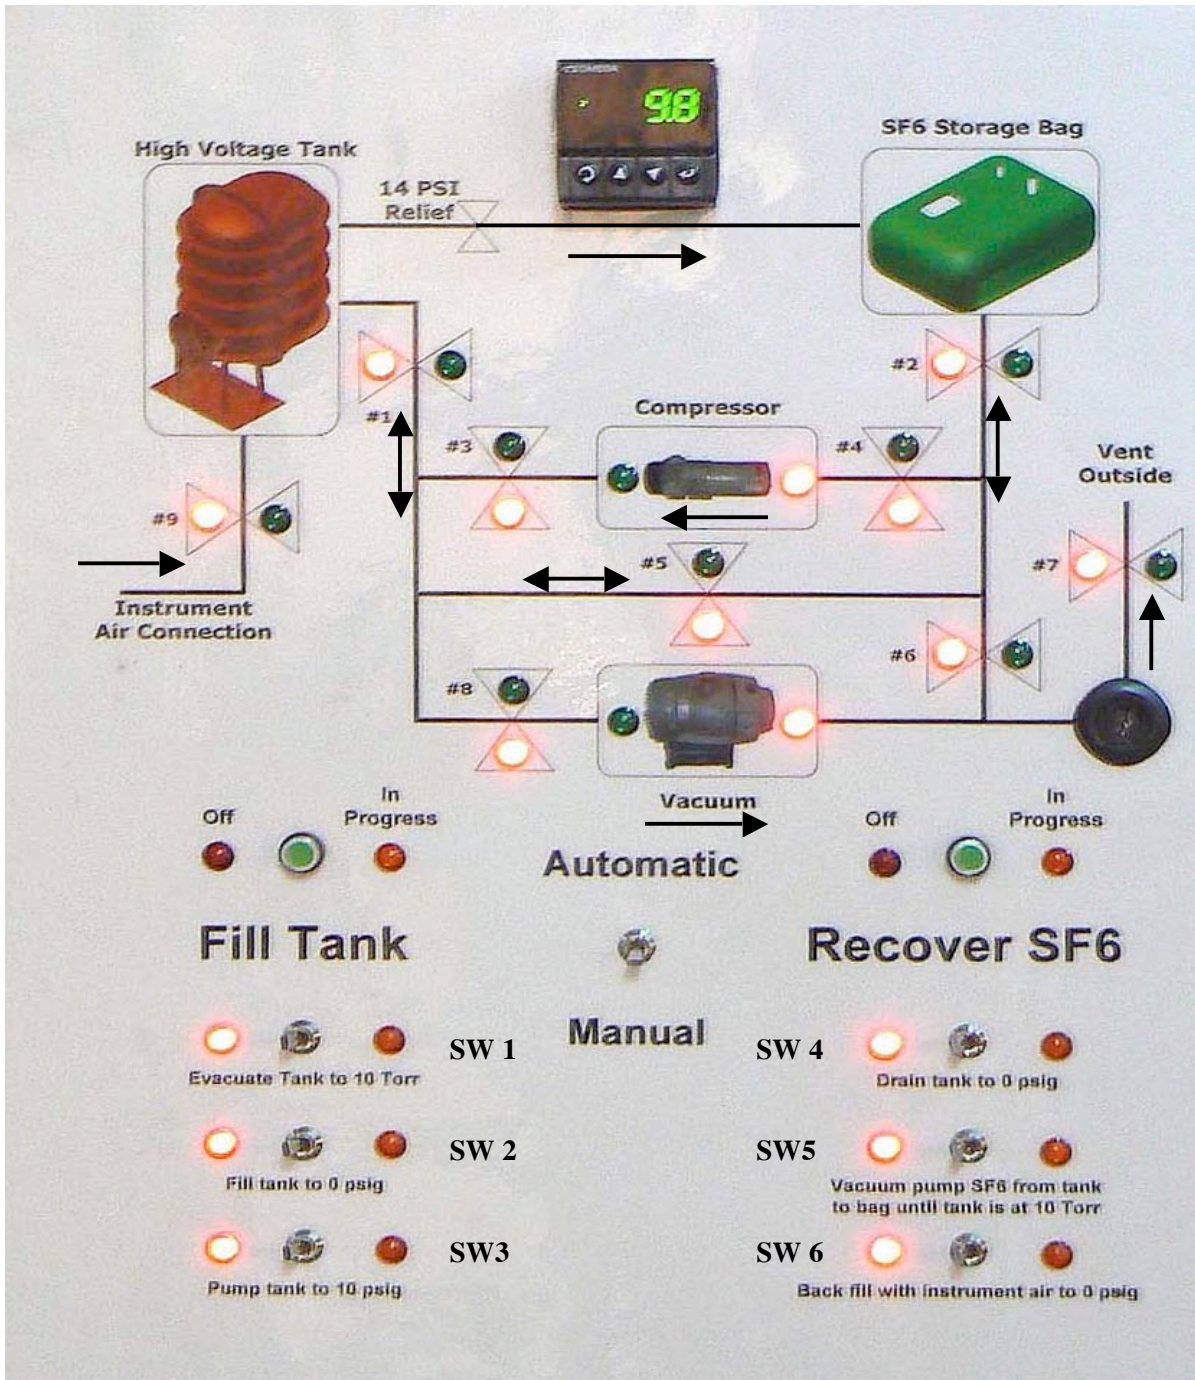

Figure 1 SF6 Control Panel
3. Ensure all valves are closed. On the following page, see Figure 1, SF6 Control Panel.